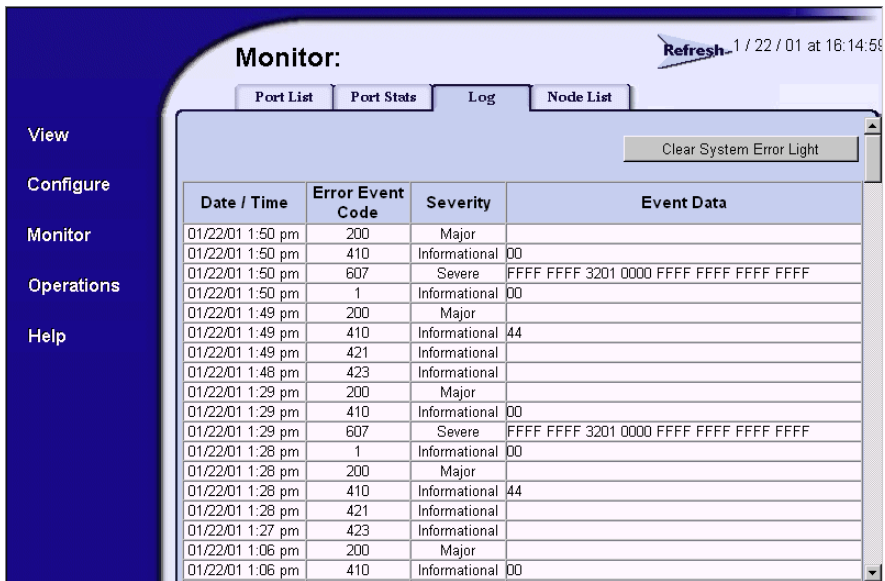

Figure 2-8: Monitor Log Panel
2. At the Monitor panel, click the Log tab. The Monitor panel (Figure 2-8) displays.